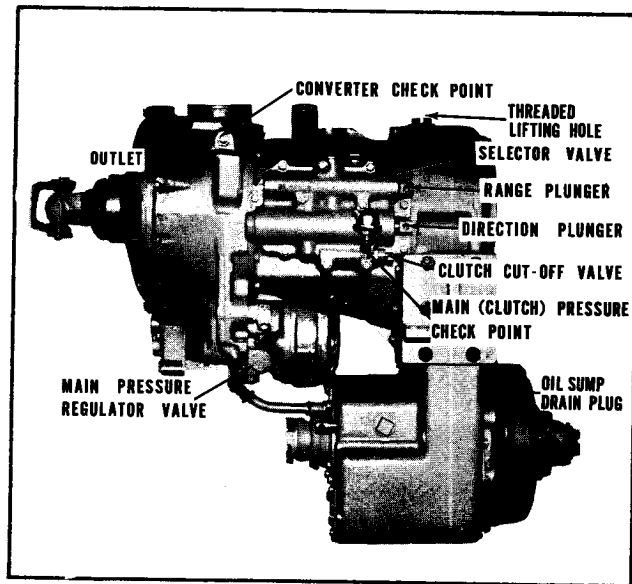

FIG. 17 – TRANSMISSION (RIGHT SIDE)
3. Ordinarily the converter "out" pressure reading is not required during operation – thus no gauge is provided on the instrument panel. It is specified at 25 P.S.I. minimum at full throttle, converter stall; and 65 P.S.I. maximum at full throttle, no load. The reading, if required, may be obtained by installing a pressure gauge in place of the converter "out" temperature sender, located at the converter check point (refer to Fig. 17). **CAUTION: DO NOT STALL CONVERTER LONGER THAN 30 SECONDS AT A TIME WHEN OBSERVING THIS PRESSURE.**